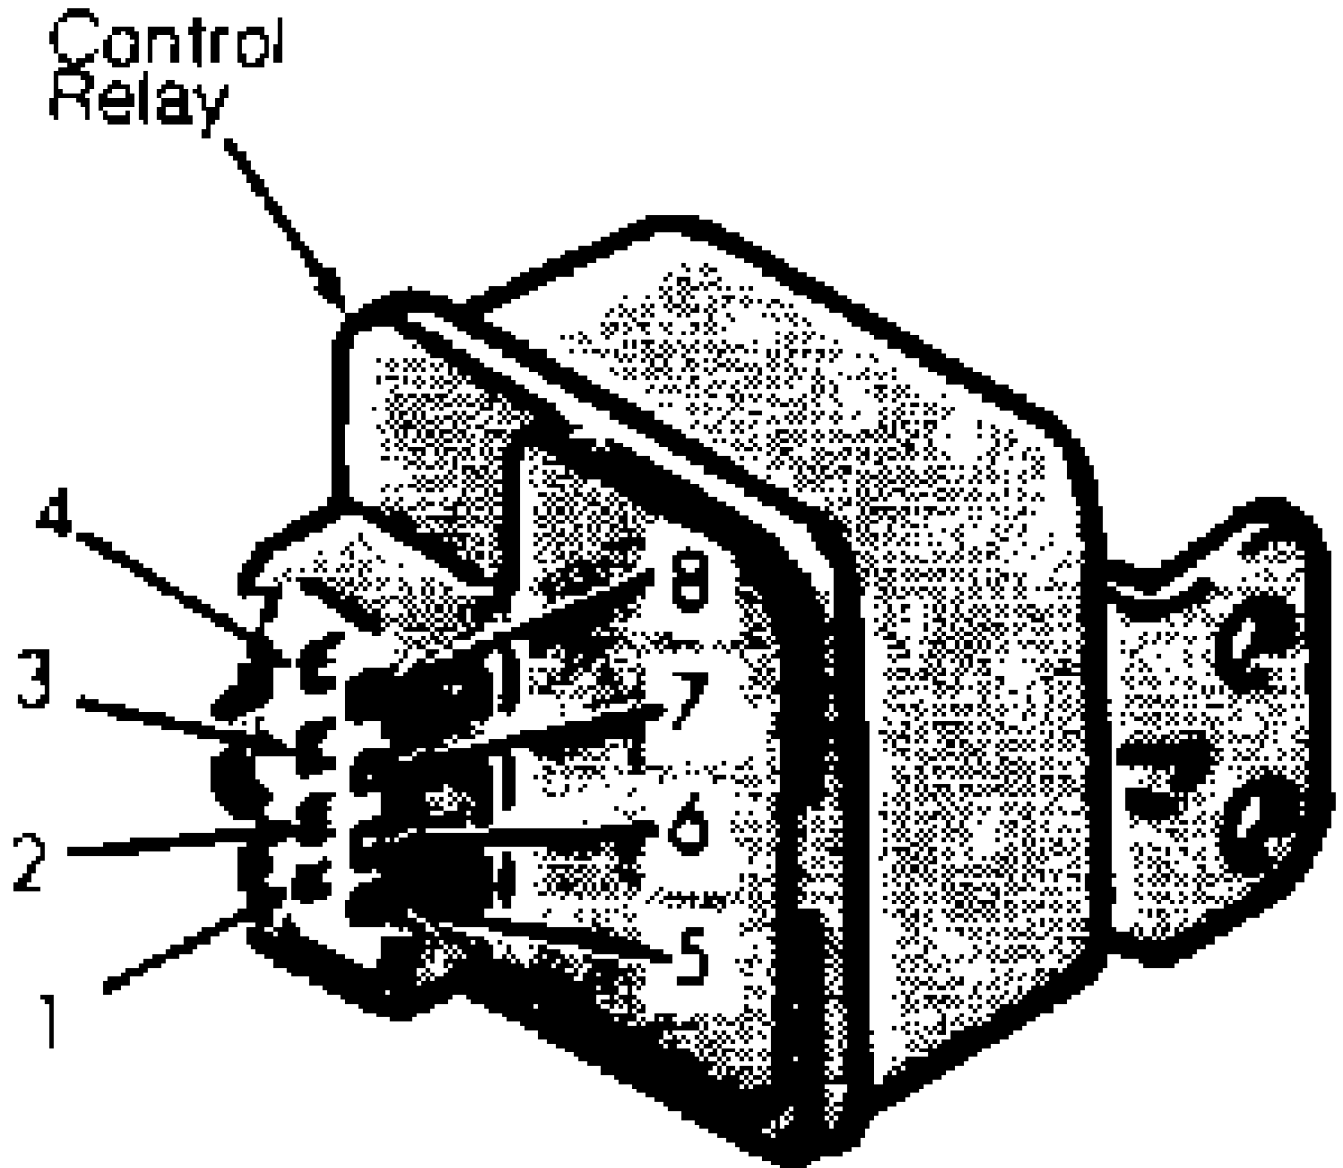

Fig. 10: MPI Control Relay Connector Term. ID (8 Pin)
1) MPI control relay is located near right kick panel. Check for battery voltage at terminal No. 4 of relay connector. See Fig. 10. If battery voltage is present, go to step 3). If battery voltage is